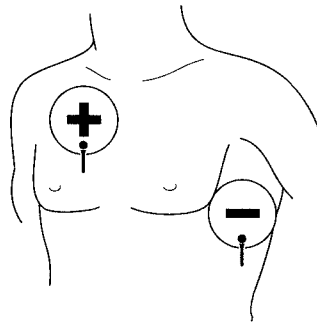

Figure 5-4 Anterior-lateral electrode placement for pacing
- 7A** Place the black ANTERIOR (-) electrode on the left anterior torso, just lateral to the left of the nipple in the midaxillary line. This corresponds to the V₆ electrode position (see Figure 5-4).
- 8A** Place the red POSTERIOR (+) electrode on the right anterior upper torso subclavicular area lateral to the sternum (see Figure 5-4).
When using noninvasive pacing on unconscious patients, the patient's level of consciousness may improve during pacing. Patient discomfort associated with noninvasive pacing may occur. Discomfort may be minimized by administration of a sedative or analgesic or movement of the anterior (negative) pacing electrode to the V₆ electrode position (see Figure 5-4). Repositioning of the negative pacing electrode may result in a lower capture threshold, thus reducing discomfort.